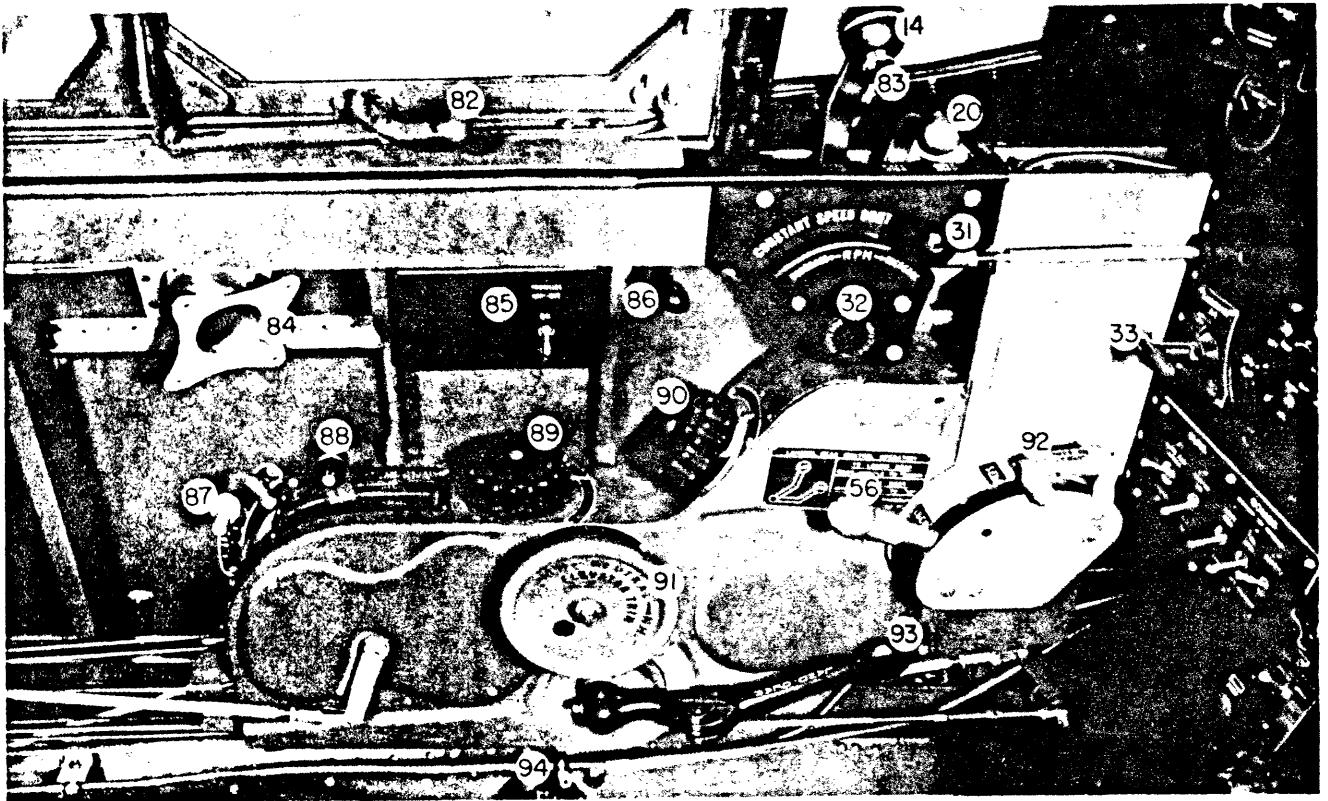

Figure 4—Cockpit—Left Side
(1) Test operate cockpit swivel lights. (See No. 77, figure 3 and No. 86 figure 4.) These lights are switched on by means of a knurled knob on top of the fixture base.
(2) Flight controls unlocked. Test for free operation.
(3) Flaps "UP." (See No. 87, figure 4.)
(4) Landing gear control handle "DOWN." (See No. 93, figure 4.)
(10) Fuel tanks. Check contents. (See No. 81, figure 3, and No. 94, figure 4.)
(12) Radiator scoop closed. (See No. 88, figure 4.)